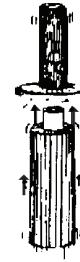

Figure 1
1. Hold upright, **tap the hand grip off** using the sliding weight as in figure 1. If handle has been bent severely use a hammer and alternately tap on either side under the grip to remove it.